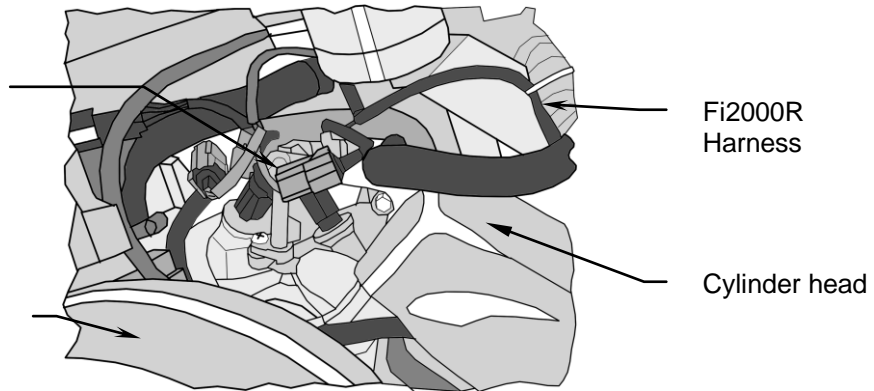

FIGURE 2
4. Locate the gray factory fuel injector connectors and disconnect each one by depressing the locking tab and replace it with the Fi2000R gray connector. Then plug the original connector into the corresponding Fi2000R black connector. Connect one cylinder at a time to prevent from mixing up the injector harness order. The longer Fi2000R harness is mated to the front injector and connector, (Fig. 2.)